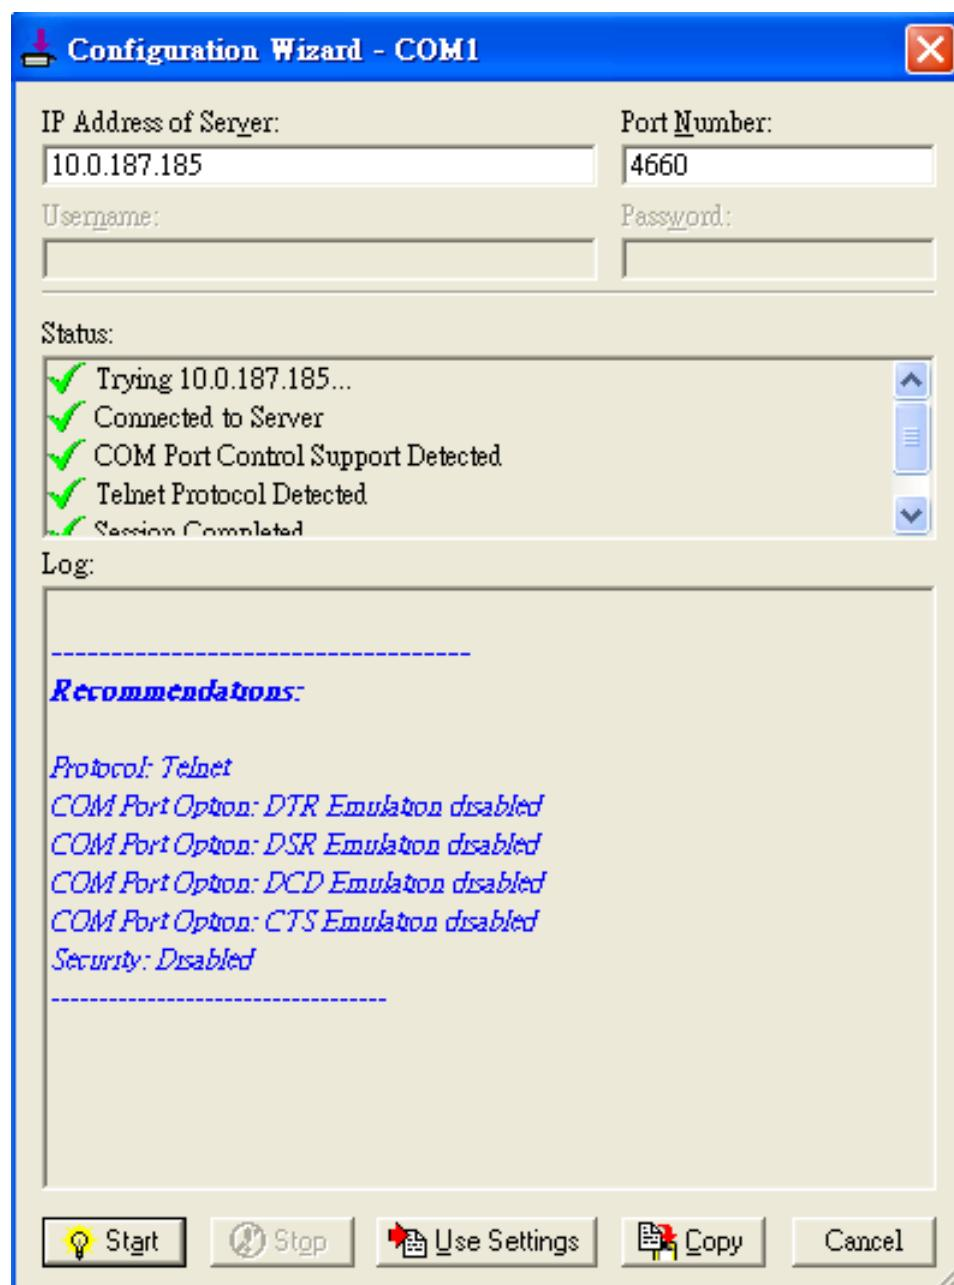

Figure 4.9 Configuration Wizard
- vi. To test the Virtual COM connection, click the Configuration Wizard button and then click **Start** button in the pop up window (Figure 4.9). If the test passes, all checks should be in green. To apply the changes in the Configuration Wizard window to the Control Panel, click on **Use Settings**. Click on **Copy** to copy the results to the system clipboard.